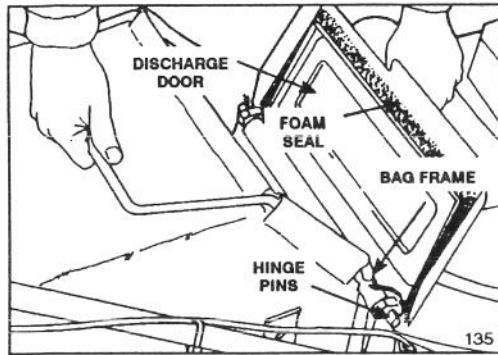

Figure 10
2. INSTALLING BAG — Raise discharge door and hook bag frame onto hinge pins (Fig. 10). Allow bag to rest on mower housing over discharge opening. Close door and make sure it seals around top of bag opening.